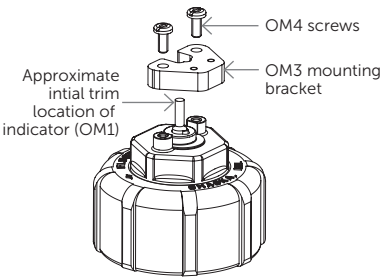
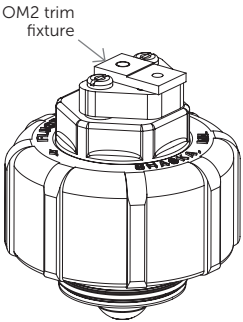

Figure 6.
Figure 7.
26. For Omron kit only, install mounting bracket (OM3) using #8-32 screws (OM4). (See Figure 6.)
1. For Omron kit only, trim indicator (OM1) as shown in Figure 6, removing the larger portion (not shown) at the top of the indicator but leaving as much of the smaller diameter as possible. Place the larger hole of the trim fixture (OM2) around the indicator as shown in Figure 7, and use a blade (S12) to trim the indicator flush with the thicker portion of the trim fixture.